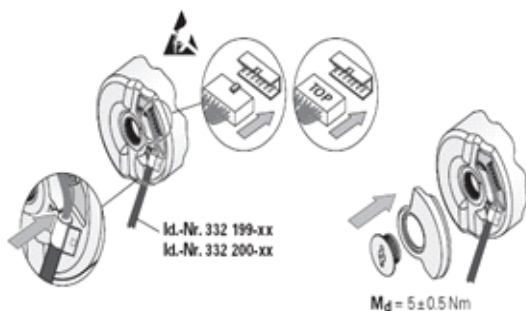

Fig.8 Wiring of encoder
- C. Follow the method as shown in Fig.8 to install the short wire of the encoder and mount the encoder onto the rear cover of the encoder. Insert the encoder's line and use M4 bolt and line to fasten it. Then use a screwdriver to screw up the bolt on the cover plate (Note: the iron ring of the shielding line must be inserted into the cover plate's groove). Don't contact the plug pin with hands. Insert the cable plug carefully into the encoder's PCB socket to avoid the problems like inaccurate insertion, loosening and pin bending. (Note: when unplugging the PCB cable, hold the plastic part rather than pulling the cables directly)